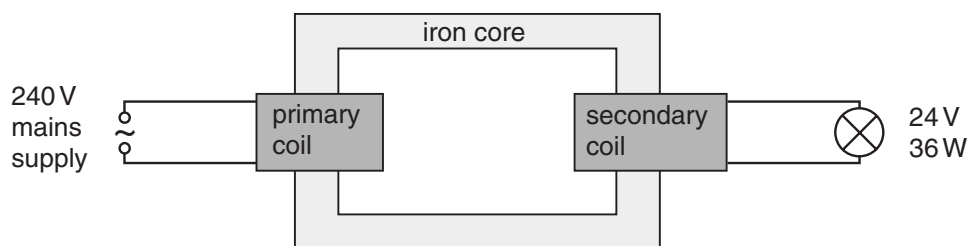

Fig. 8.1
- 7 Fig. 8.1 shows a simple transformer used to light a lamp. The lamp is labelled 24 V, 36 W.